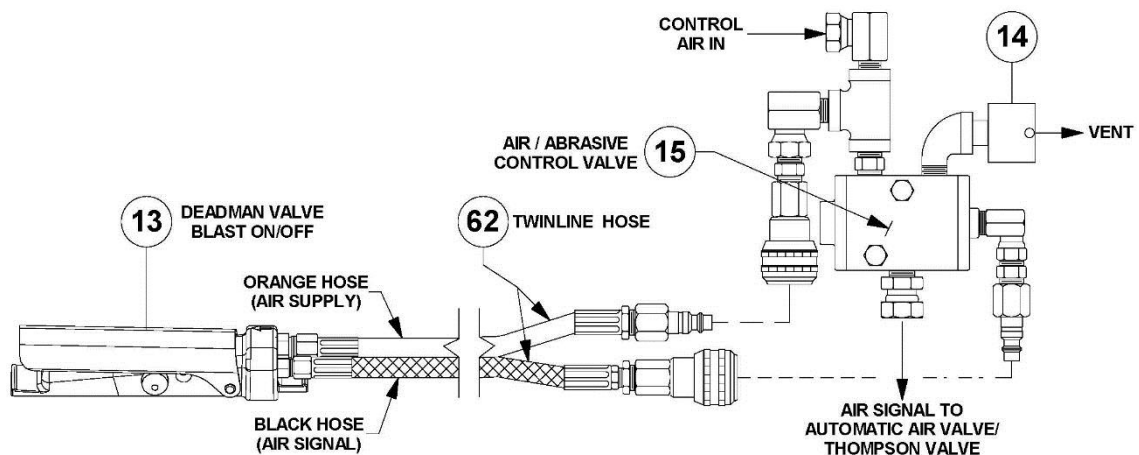

Figure 6.3 – Pneumatic Blast Control System
- 6.2.3. Disconnect the twinline disconnects (#57) of the deadman control system to disable the blast controls. This will protect against the automatic pressurization of the blast vessel. See Figure 6.3.